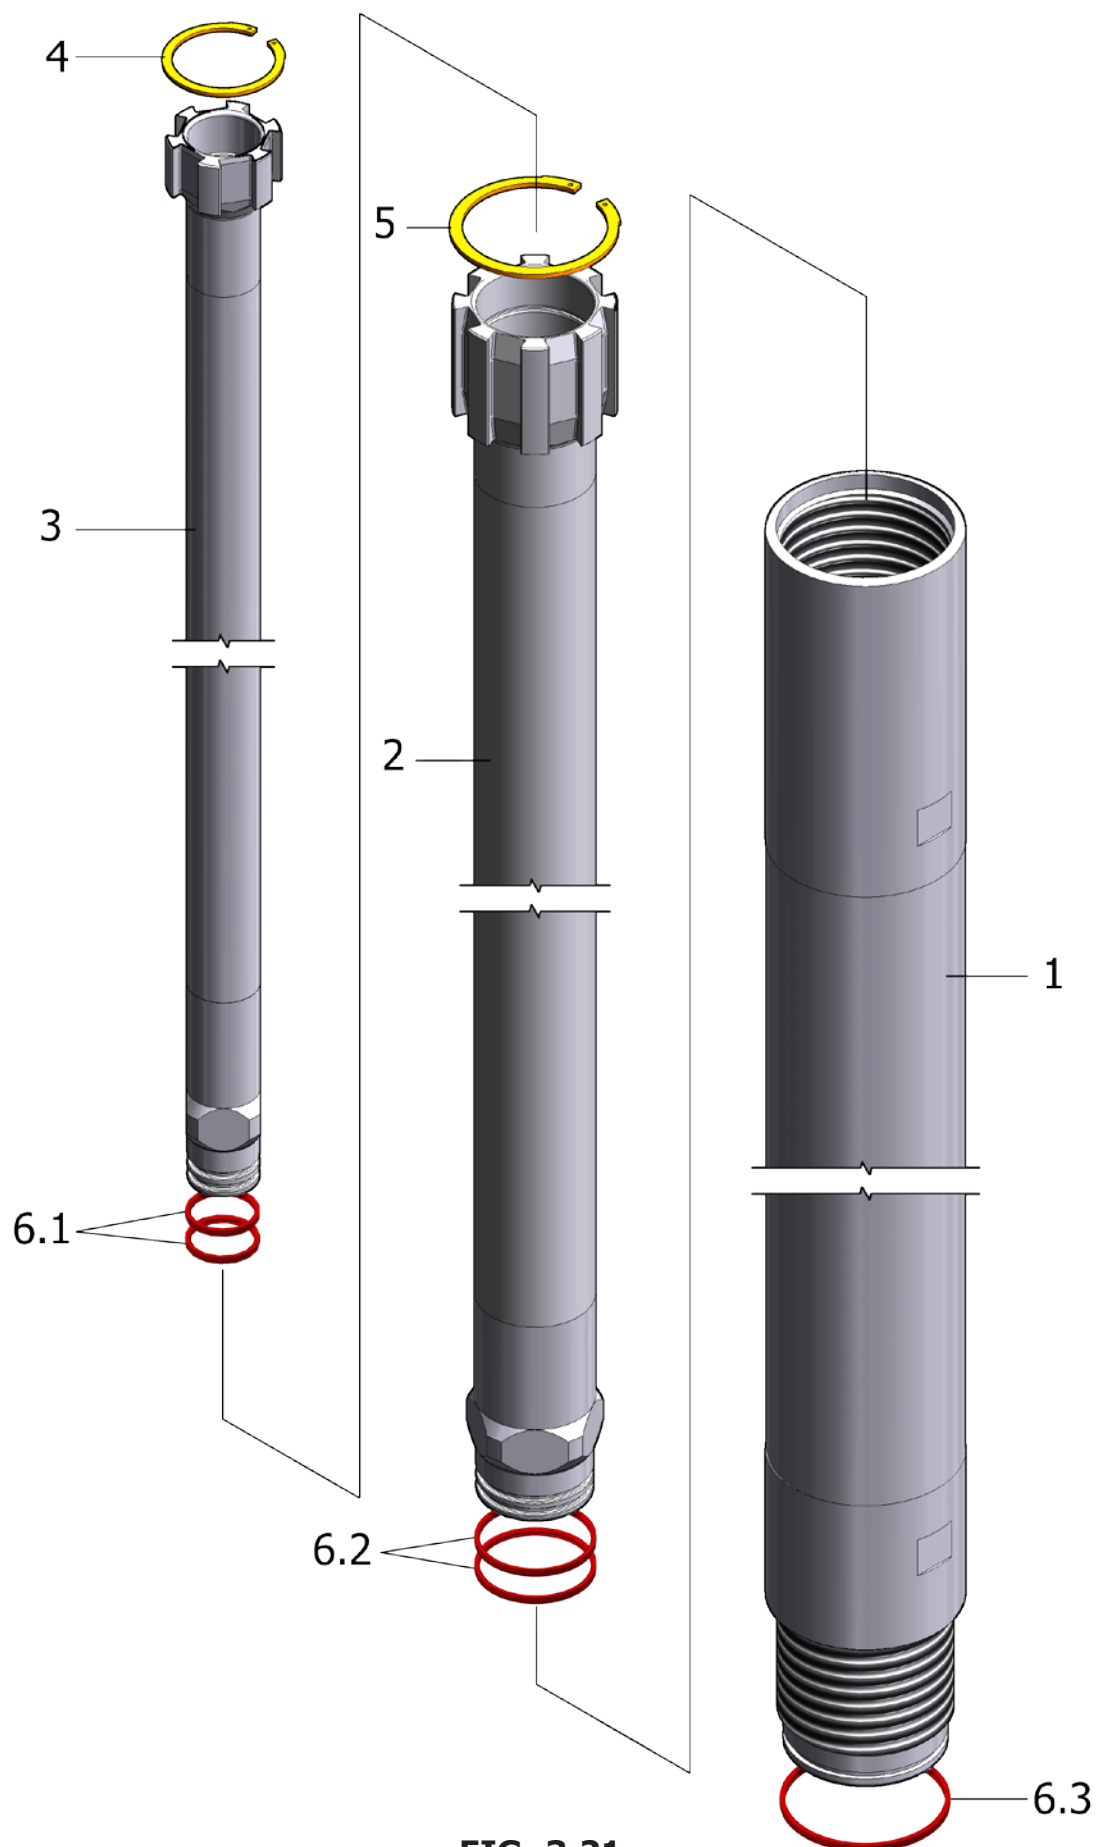

FIG. 3.21
D.114 T3 ROD: J-W114T310 (L=1000); J-W114T320 (L=2000); J-W114T330 (L=3000) (REF. FIG. 3.21)